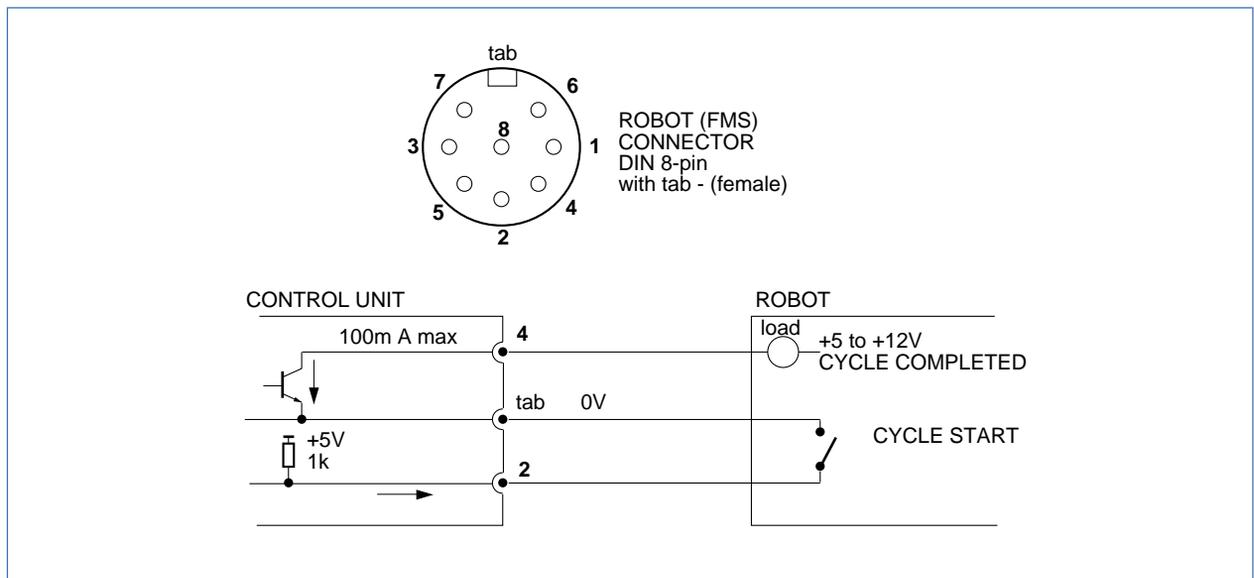

Figure 5.3 Robot (FMS) Connections
5.2 Installing a Robot for FMS Operation (Figure 5.3)